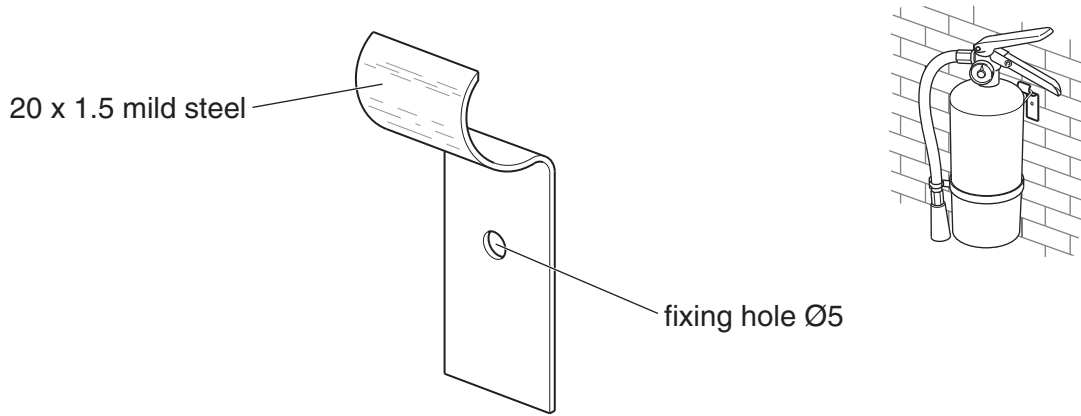

Fig. 3
- 4 Fig. 3 shows a support bracket for a fire extinguisher. The bracket is made from mild steel.
- (a) Give **two** reasons why mild steel is a suitable material for the support bracket shown in Fig. 3.
- (b) The support bracket shown in Fig. 3 has a number of design faults.
(c) The support bracket shown in Fig. 3 will be manufactured in batches.